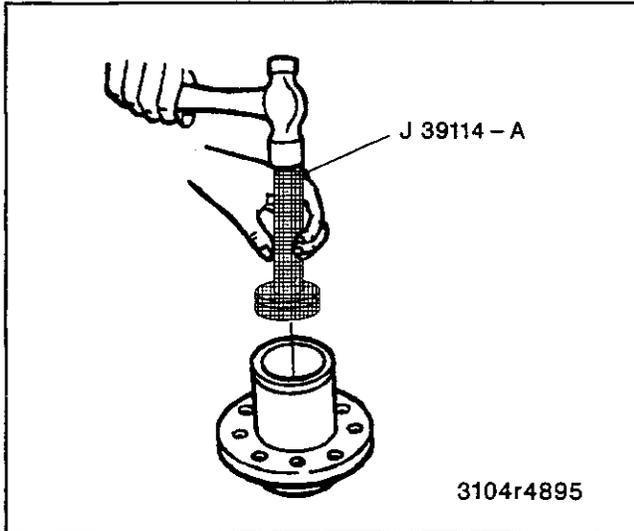

Figure 33—Installing Oil Seal into Hub
5. New oil seal using J 39114-A (figure 33).